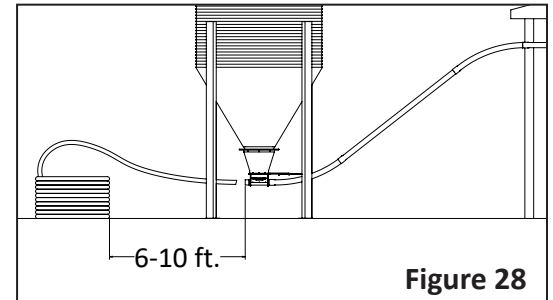

Figure 28
1. Place the auger coil approximately 6-10 ft. (1.8m-3.1m) away from the end of boot, as shown in Figure 28.